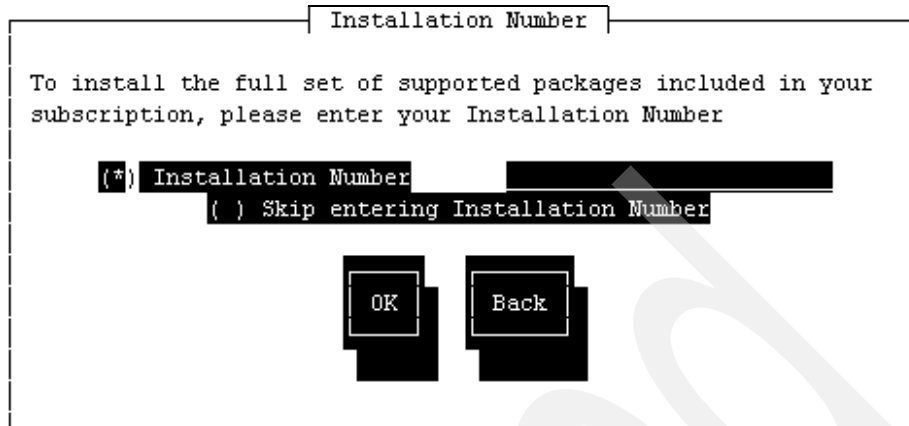

Figure 6-13 Installation number page
10. Enter the installation number in Figure 6-13. Click **OK** to confirm.